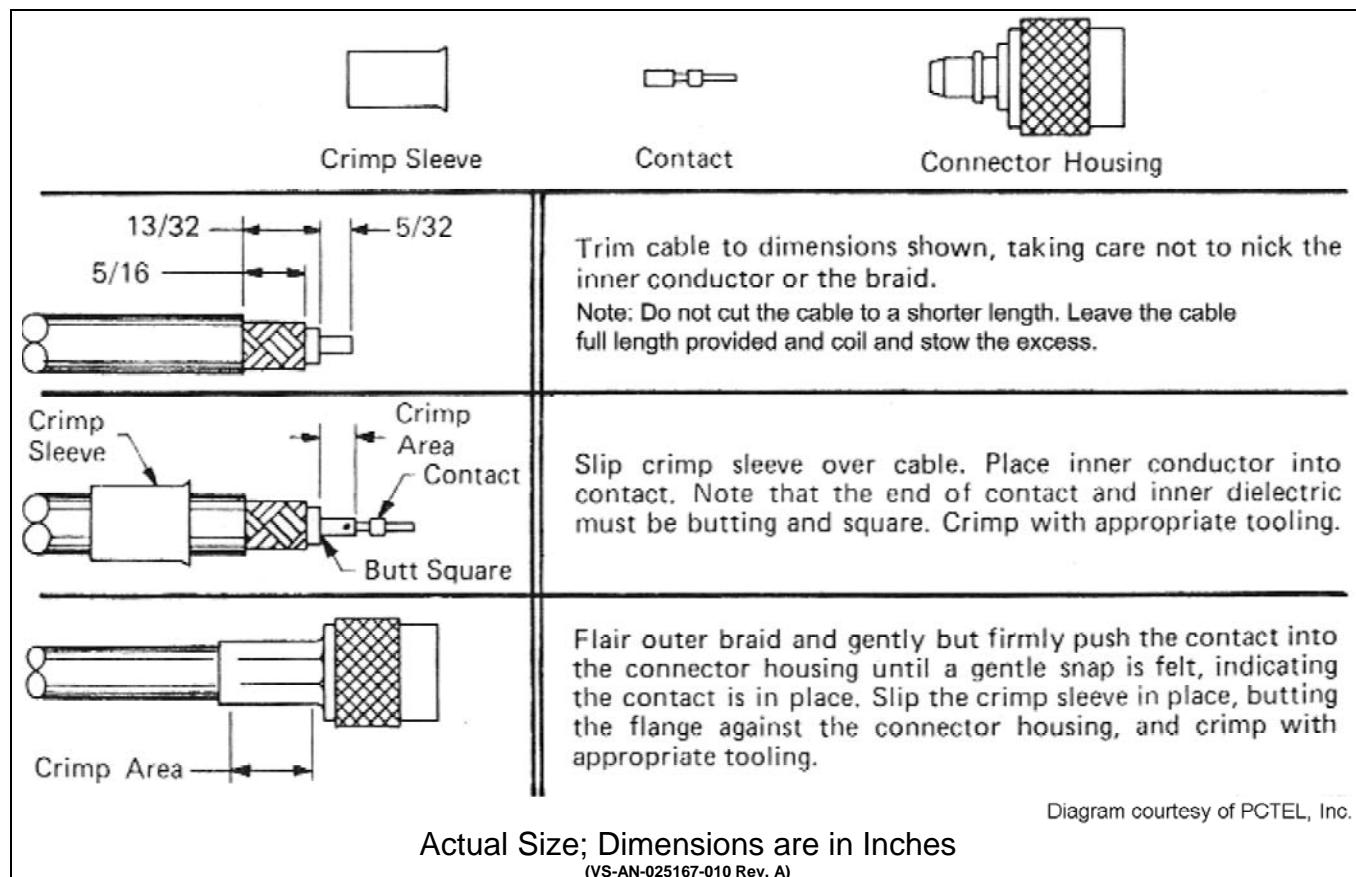

Figure 6-2: Crimping Instructions for TNC RF Connector
3. Using an appropriate crimp tool, crimp the supplied TNC RF connector to the end of the antenna cable. For crimping instructions, see Figure 6-2 or the instructions supplied with antenna.